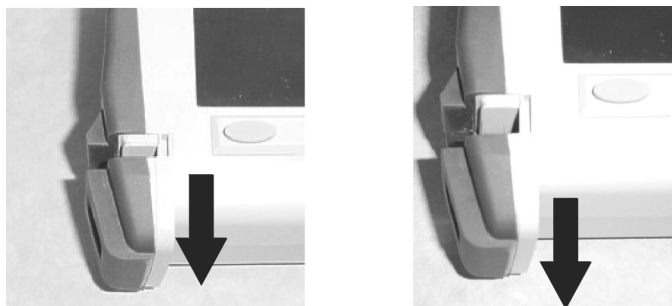

Figure 6. Removing the Battery Access Door
3. Remove the battery access door, as illustrated in Figure 6.